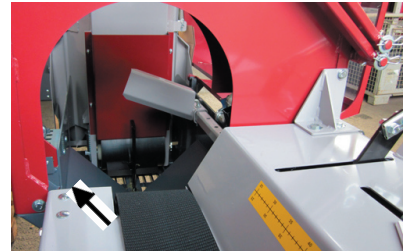

Fig. 12
- Release fixation screws (SW 17) on the chainsaw guard (see Fig. 12 and swing it opened.